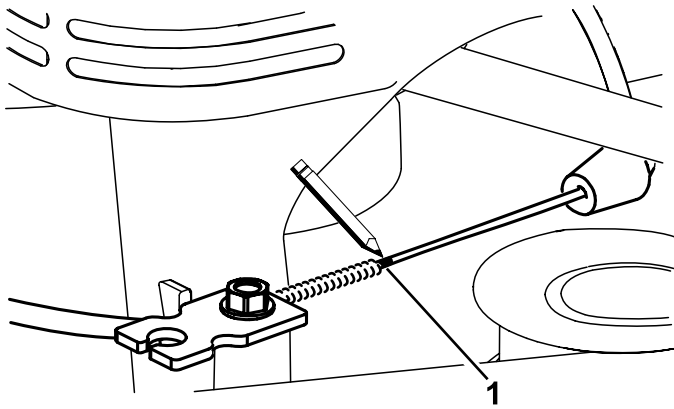
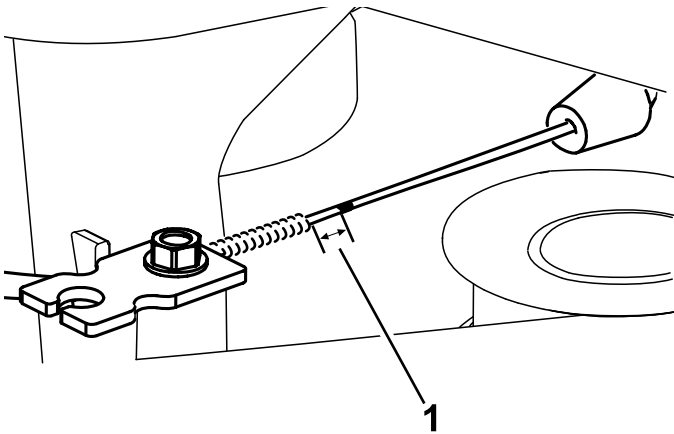

Figure 47
Figure 48
7. Mark the brake cable (Figure 47), then adjust the jacket until there is approximately 3 mm (1/8 inch) of slack (Figure 48).